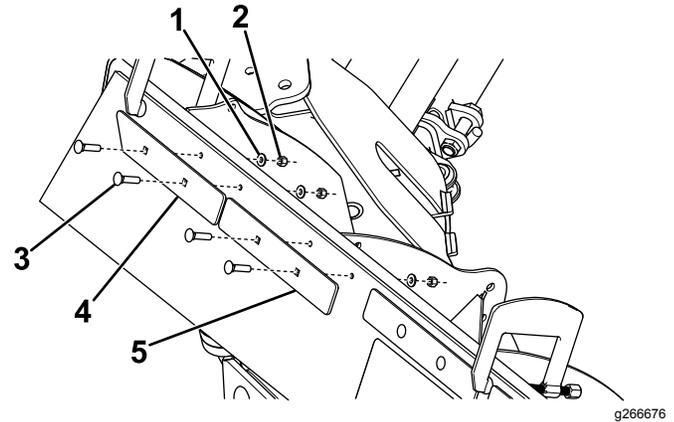

Figure 5
Note: If your plow does not have holes to use as a guide, use Figure 5 as a guide for where to drill.
- Secure the 45° straps to the inner holes using 4 carriage bolts (5/16 inch), 4 washers (5/16 inch), and 4 nylon locknuts (5/16 inch) as shown in Figure 5.
- Secure the square straps to the remaining holes (Figure 5) using the hardware listed for your plow below: